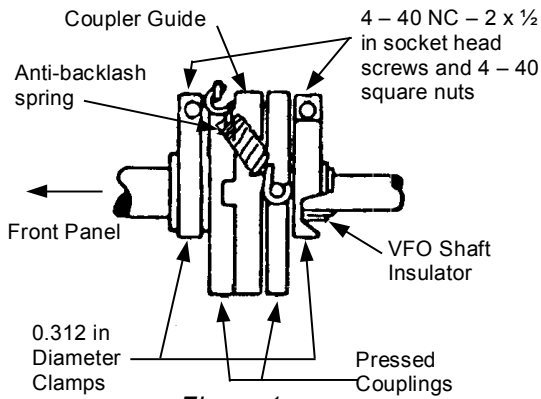

Figure 1
(1) PTO (VFO) Subchassis Removal WARNING!!!! Handle the PTO subchassis carefully to prevent damage or misalignment, do not turn the PTO subchassis shaft or the KILOCYCLE CHANGE shaft (either outside or inside the front panel). To remove the PTO the R-390A is placed upside down. If the bottom dust cover is present, remove it. The PTO subchassis is in the center of the bottom three compartments. Locate the Oldham coupler and remove the anti-backlash spring, see Figure 1 below. The Oldham coupler connects the PTO tuning shaft to the kilocycle change shaft. You will probably have to rotate the kilocycle change shaft with the front panel knob to bring the anti-backlash spring into a convenient position for removal. Do not loosen the spline socket head screws. To remove the spring I use
free.) Put the spring in a safe place and do not lose it. Next, rotate the kilocycle change knob until the Oldham coupler guide (the central disc) is in the position shown in Figure 1 (when viewed from above). At this point, if you are the careless type, you should lock the KILOCYCLE CHANGE shaft with the front panel DIAL LOCK. Disconnect the blue plug P-109 (the metal cylindrical plug cover/lock mechanism rotates to unlock, and then the blue plug can be pulled out. If you cannot unplug P-109, examine the plug closely and make sure you have unlocked it). Trace the white wire through the hole in the PTO compartment to the top side of the R-390A, unplug it from the RF subchassis (J 217), and pass it through the hole in the PTO compartment. Loosen the three green